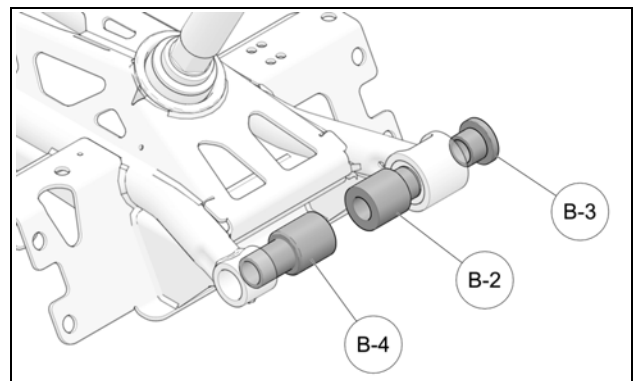

Figure 13
- Insert the T-Bushings in the System's rear frame mounting points, making sure that they are at the right position and installed in the right direction. See Figure 13.